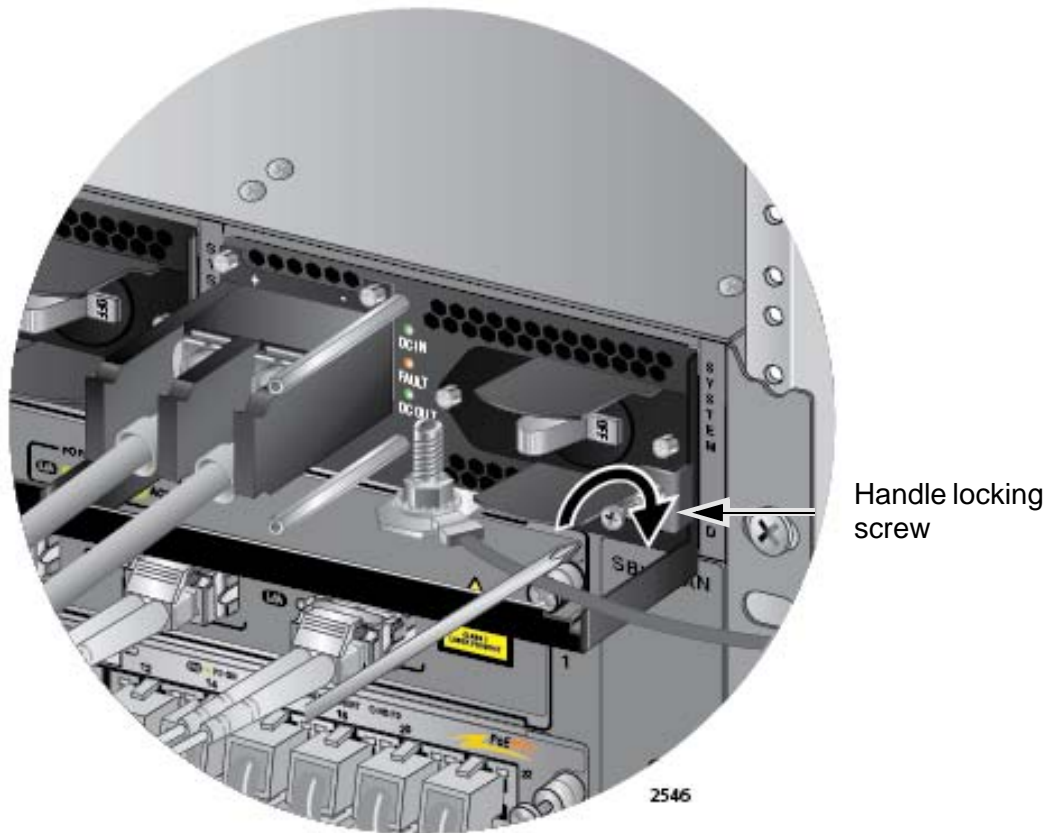

Figure 148. Tightening the Handle Locking Screw
8. With a #2 Phillips-head screwdriver, tighten the handle locking screw to secure the power supply to the chassis. See Figure 148 on page 213.